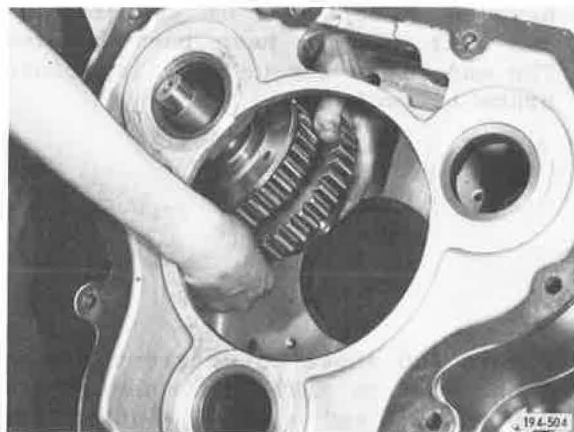

Figure 97. Removing Countershaft
13. Remove the three front compound countershafts from the case. See Figure 97.